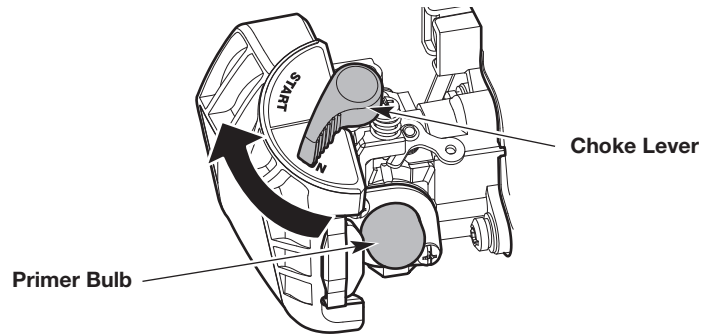

Fig. 4
1. Slowly press and release the primer bulb **10 times** (Fig. 4).
3. Flip the choke lever clockwise until it clicks into the **START** position (Fig. 4).